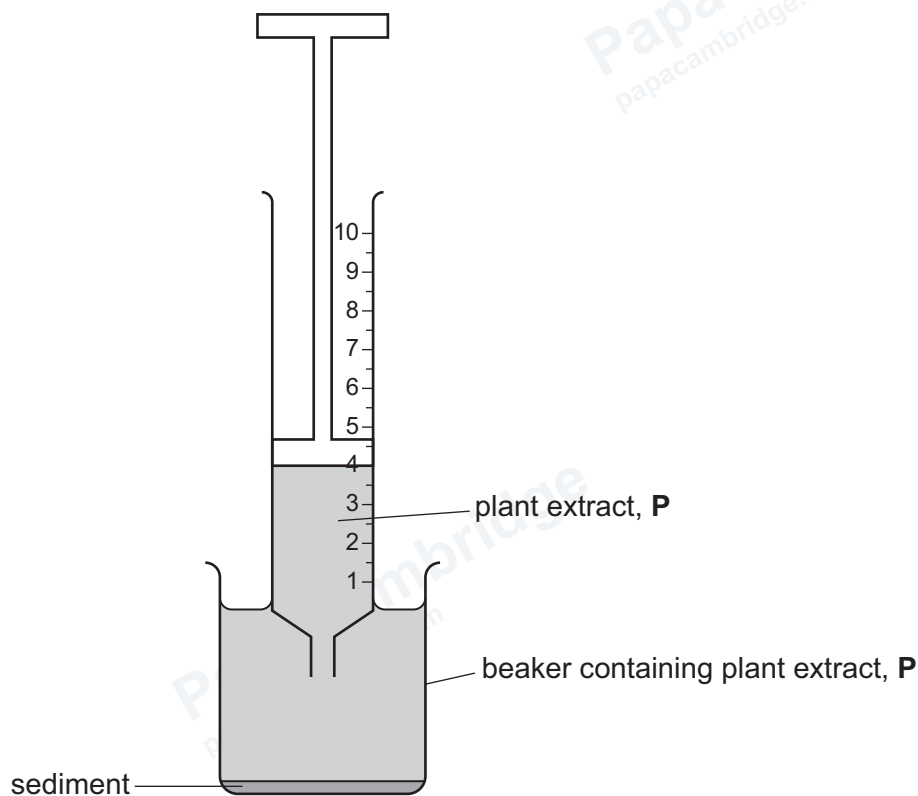

Figure 1.2
- step 6 Hold the syringe so that the nozzle is just below the surface of the plant extract, **P**, as shown in Figure 1.2.
- step 7 Pull the plunger out to the 4 cm^3 mark so that **P** enters the syringe, as shown in Figure 1.2.